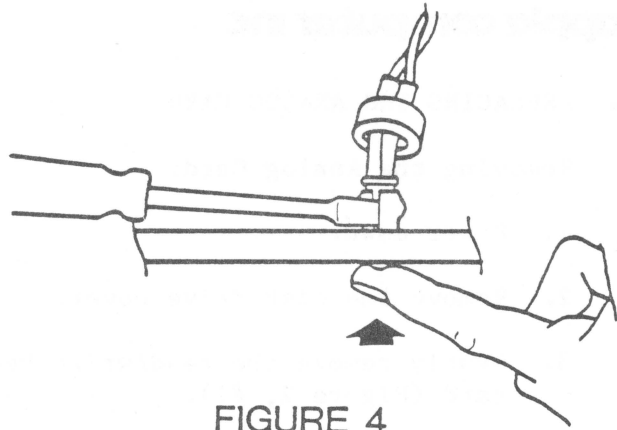

FIGURE 4
- b. Press the face of the LED in towards the drive, while gently prying apart the LED holder with a screwdriver (Fig. 4), until the LED snaps free of the bezel.